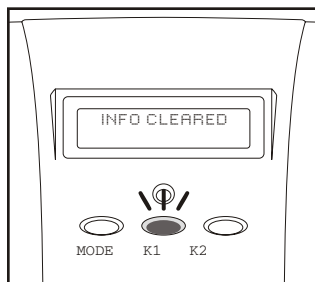
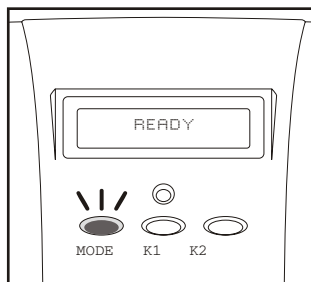

Figure 11
Figure 12
2) To delete the information: Once the unit displays “READY”, press the “K2” button. Once the first set of information is displayed, press the “K1” button for two seconds (figure 11). The screen will show the message “INFO CLEARED”. Press the “MODE” button to return to detection status (figure 12).